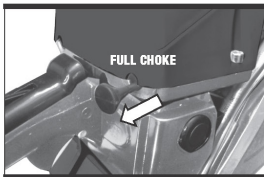

Fig.M2
3. Pull the choke lever (10) out to the full extent (to the FULL CHOKE position). (Fig. M2)